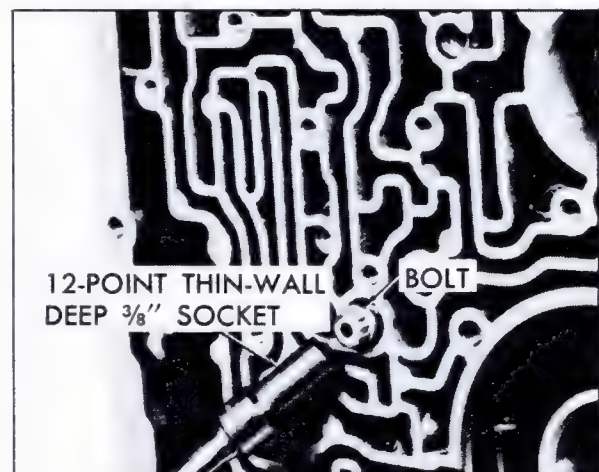

Fig. 7-174 Removing Center Support Bolt
1. Remove center support bolt from transmission case, Fig. 7-174, using a 3/8 inch 12-point thin wall deep socket.